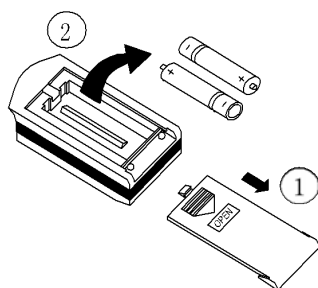

Fig4.1
- 1). Slightly to press the place with  along the arrowhead direction to push the back cover of remote controller.(As show in Fig 4.1)